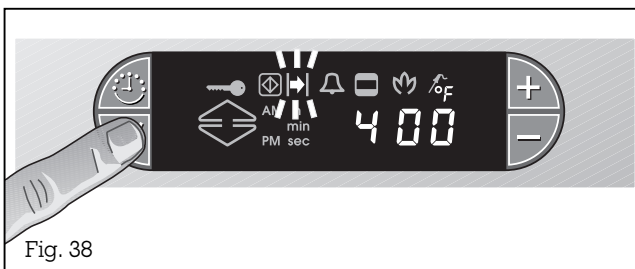

Fig. 38
- Press the ✓ (Confirm) key and keep it pressed, until the ➔ (Rotisserie) symbol flashes. (Fig. 38) Remove your finger from the key. The rotary spit then begins to turn. Repeat the above to stop the rotary spit turning.